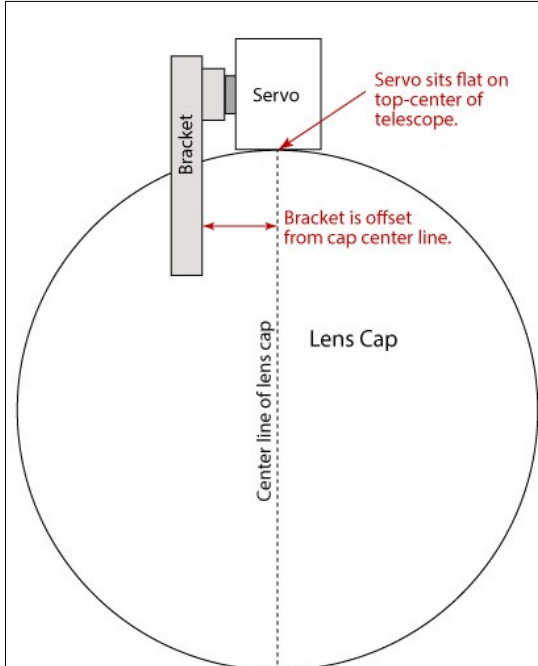

Figure 15: Servo, bracket, and cap mounting arrangement
- The servo will be installed horizontally on the telescope, as shown in the photo on the title page and in **Figure 15**. The servo shaft must project to the left when viewed from the telescope's objective end. The cap mounting bracket must rotate *upward* when opening the cap. Try to visualize this, or actually hold the servo horizontally while you command the caps to open and close.
- Identify a location for the servo on top of the telescope (see **Figure 15**) and near the objective end, where the lens cap will be. Use a cloth to clean this area.
Look at **Figure 15** to understand where the servo will be mounted on your telescope relative to the lens cap. Looking from the front of the scope, the mounting bracket is on the *left* side of the servo, and the long leg is pointing downward over the lens cap. Now attach the bracket to the servo as instructed below.
- Set or tape the lens cap onto the objective end of your telescope, as seen in Figure 15.